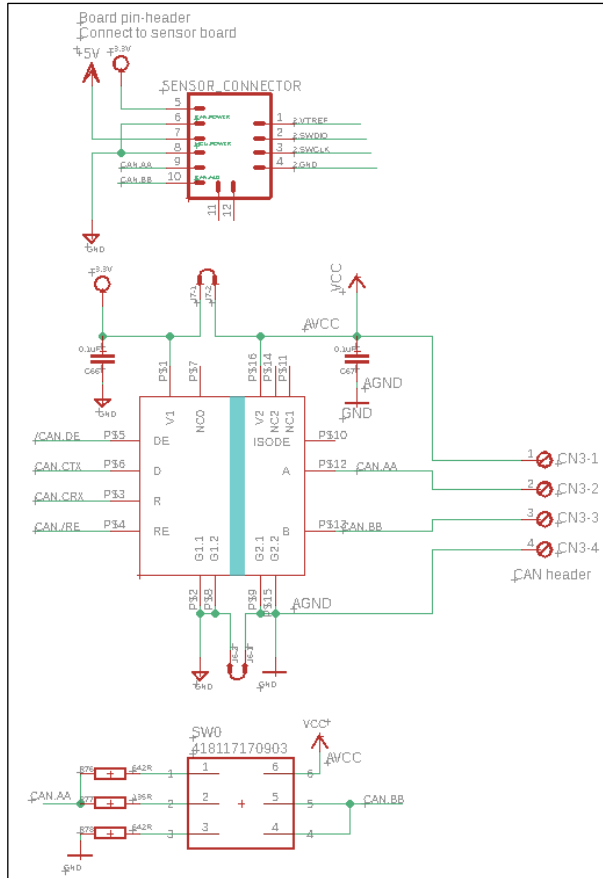

Figure 4-9 RA4M1 Monitor EVB/CAN Transceiver Circuit
- In Figure 4-9, if J6/J7 are short-circuited, and SW0-1/2/3 are all on, V2/G2 come from MCU, and the circuit has no isolation effect.
- In Figure 4-9, if J6/J7 are open and SW0-1/2/3 are all off, V2/G2 come from CAN.V2/CAN.G2 of the CAN header (CAN Bus connector). The circuit has isolation effect.